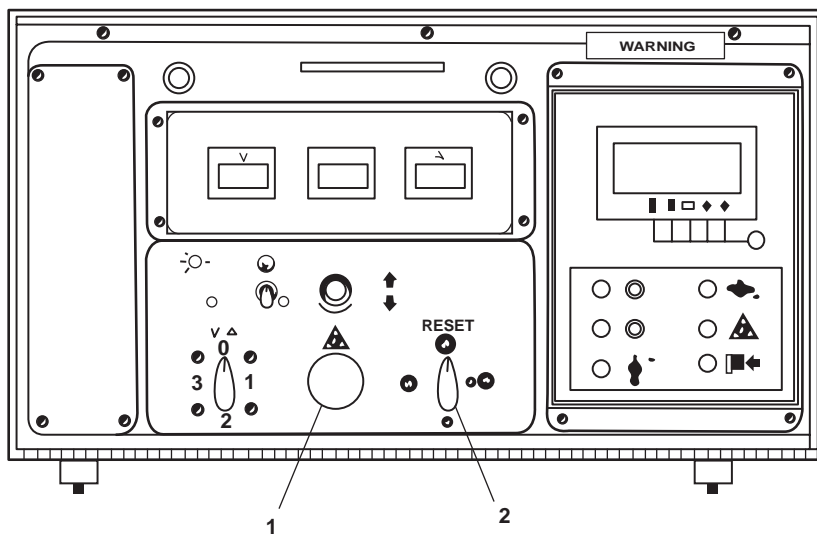

Figure 18. Emergency Diesel Generator Control Panel
- (1) Turn the red START/STOP pushbutton (figure 18, item 1) clockwise to place it in the OUT position to complete the starting circuit.
- (2) Set the RESET control switch (figure 18, item 2) to the AUTO START position.